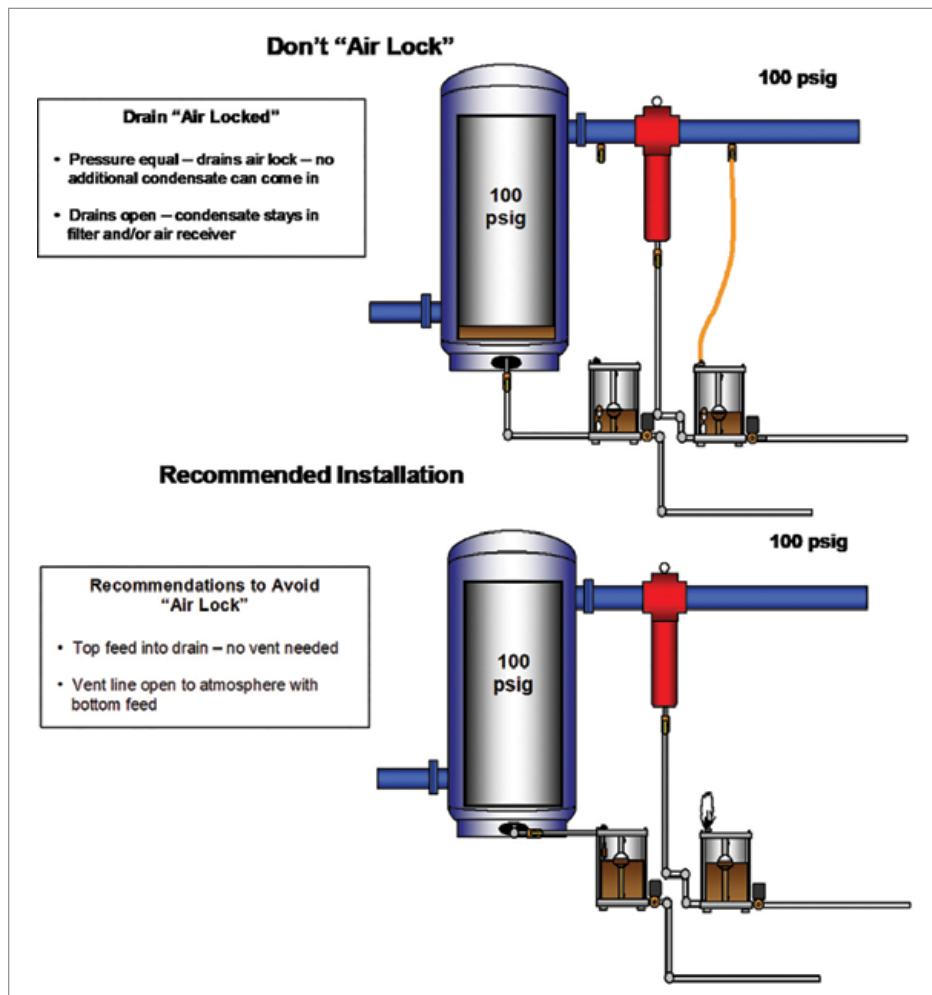

Figure 2.
- After replacement or rebuild, the drains should be installed with the condensate entering the top of the drain instead of the bottom. With top installation, you can eliminate the vent valve and there will be 165 cfm of high-pressure air saved and 50 cfm of low-pressure air saved (see Figure 2).